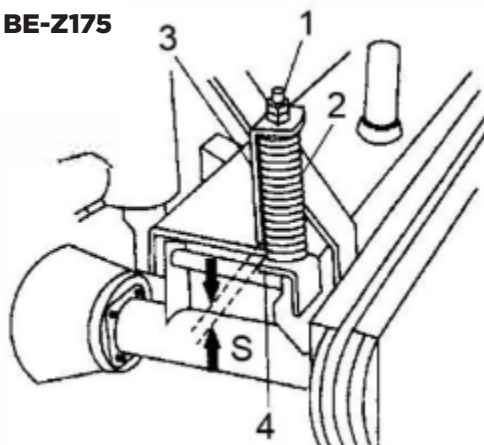

Fig. 16. V-belt tightener: 1 - adjustment nuts, 2 - tightener spring, 3 - tightener indicator bar, 4 - tightener bracket, S (dimension)= 0.5-3 mm.
The mower is equipped with spring V-belt tensioner which is fitted with spring tensioning indicator (3) (Fig. 16). Belts are properly tensioned if gap between indicator (3) and tensioner bracket surface (4) (dimension S) is 0.5 - 3 mm. In case of damage or elongation of at least one belt (in order to keep equal length) always replace the whole set of belts (all pcs with the same dimension marking and trademark).